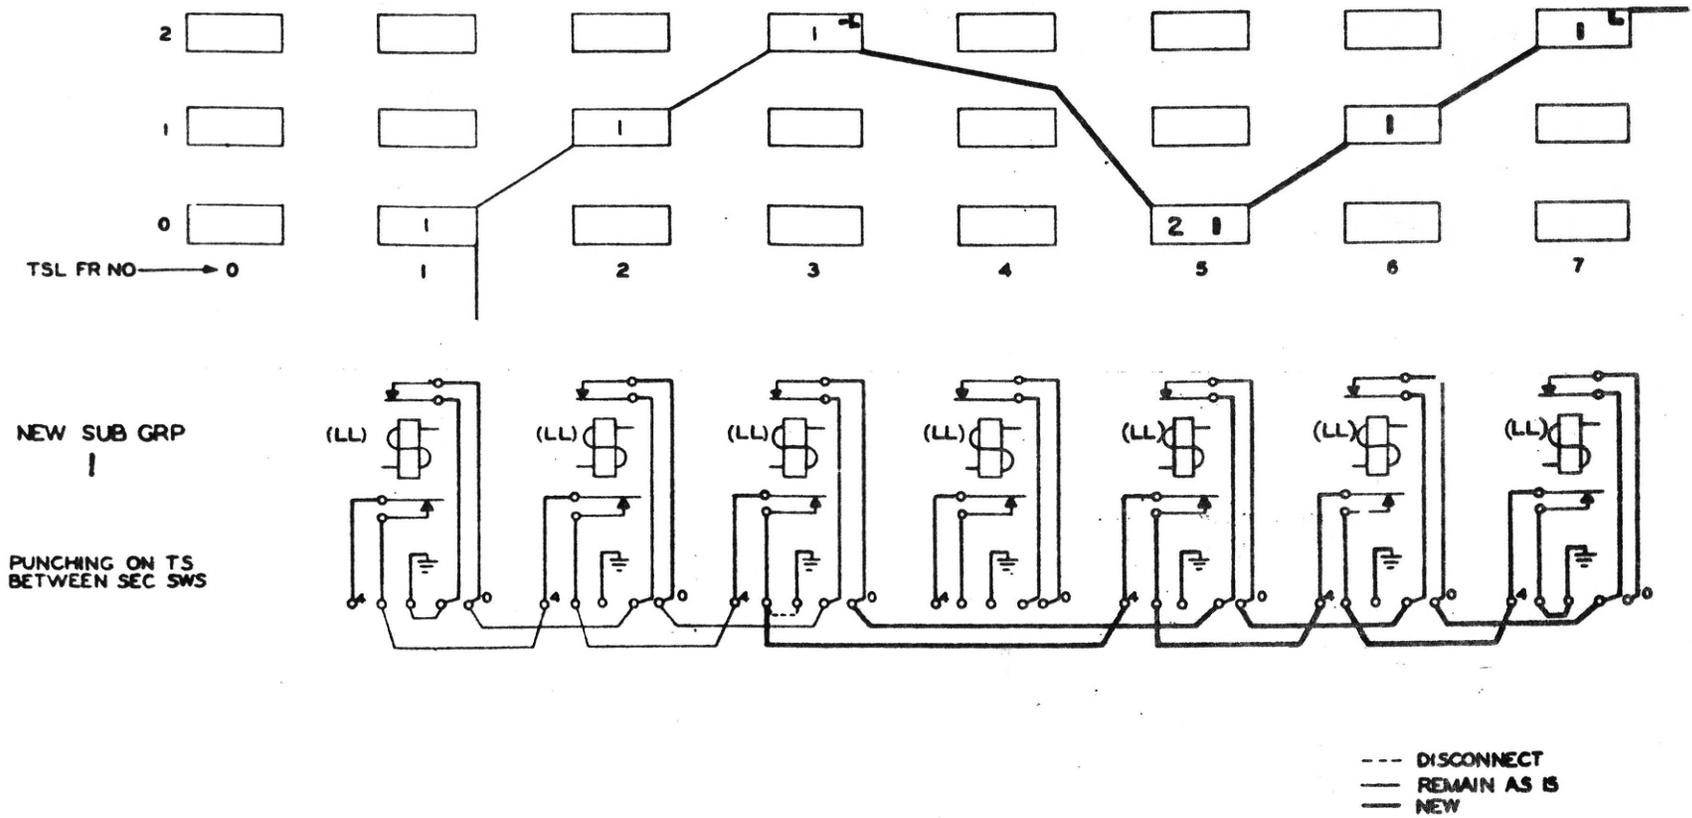

FIG. 7 RE-ESTABLISH SENDER SUBGROUP I
4.6 Step 4 - Re-establish Sender Subgroup 1 Refer to Figure 7